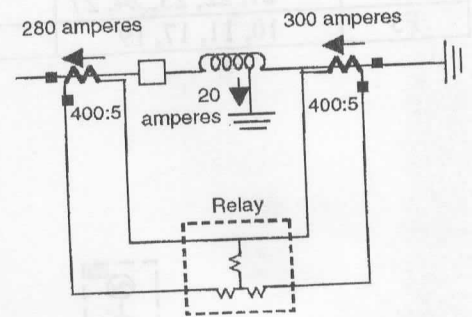

Fig. 3
- c) Fig. 3 shows a percentage differential relay applied for the protection of a generator winding. The relay has a 0.1 A minimum pickup and a 5% slope. A high-resistance ground fault has occurred as shown near the grounded-neutral end of the generator winding while it is carrying load with the currents flowing at each end of the generator as shown. Assume that the CT ratios are as shown in the figure and they have no error. Will the relay operate to trip the generator under this condition? Would the relay operate if the generator were carrying no load with its breaker open? Draw the relay operating characteristic and the points that represent the operating and restraining currents in the relay for the two conditions.